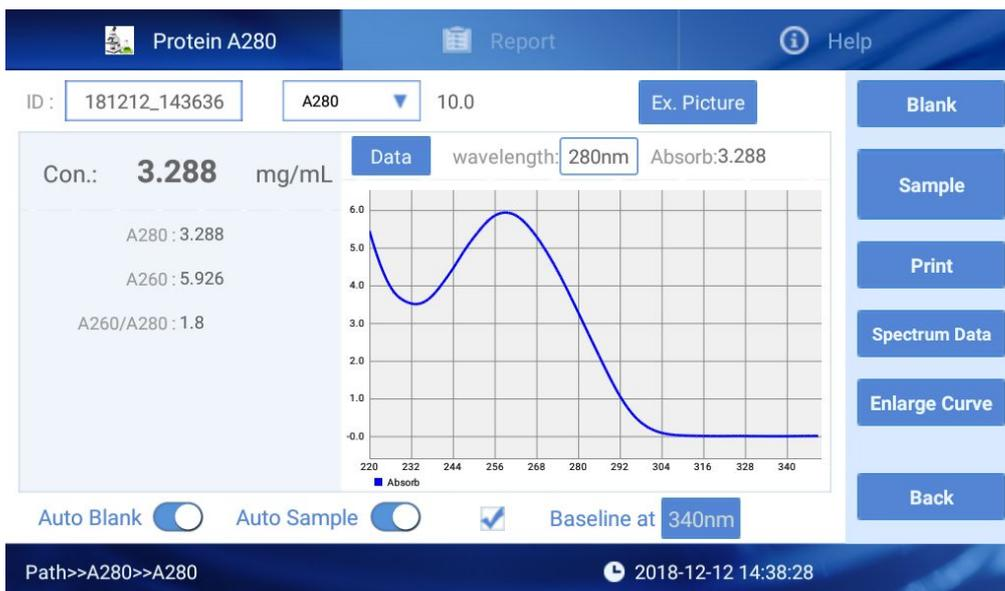

Fig 4.10 Result of Protein measurement
- ① Set the batch NO. and Nucleic Acids type;
- ② Clean the upper and lower pedestals with dust proof paper, input the 2 $\mu$ L buffer solution to make blank;
- ③ Clean the buffer solution on the ower pedestals with dust proof paper;
- ④ Measure sample with volume of 2 $\mu$ L. Click “Measure” and then enter the interface as Fig 4.10;